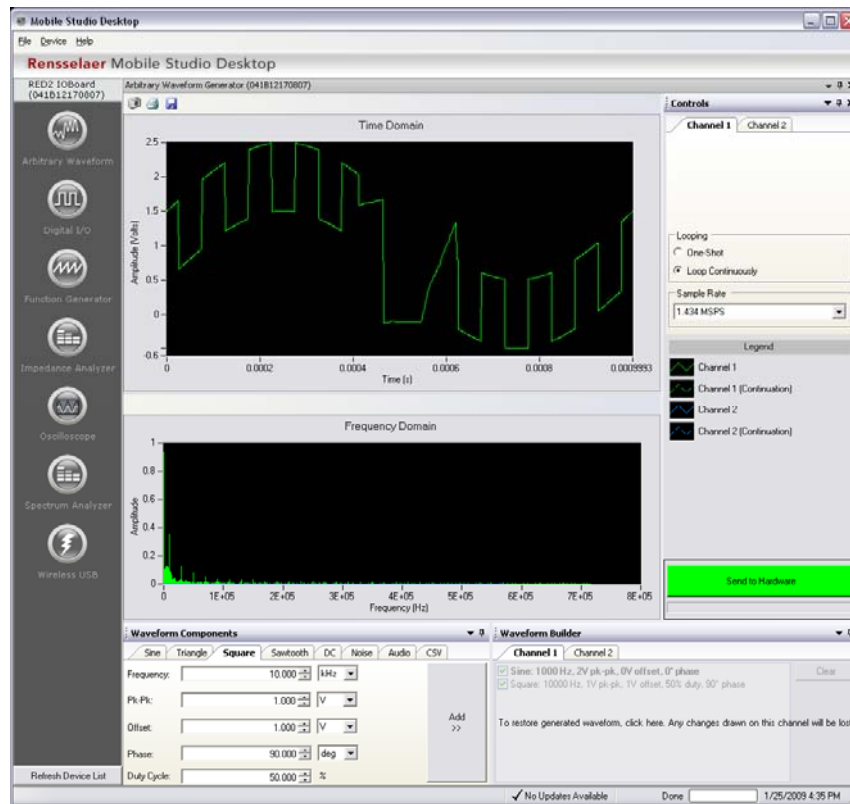

Figure 3.3: Manual Alteration of Waveforms
- 6) This functionality also allows for the user to draw and alter waveforms as desired by right clicking and drawing in the Time Domain window to change the waveform, as shown below in Figure 3.3.